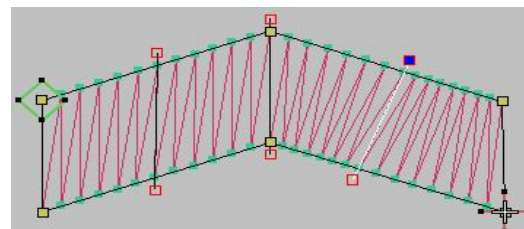

Figure 4
4.After adjusting, press the "Enter" key to confirm (as shown in Figure 4).